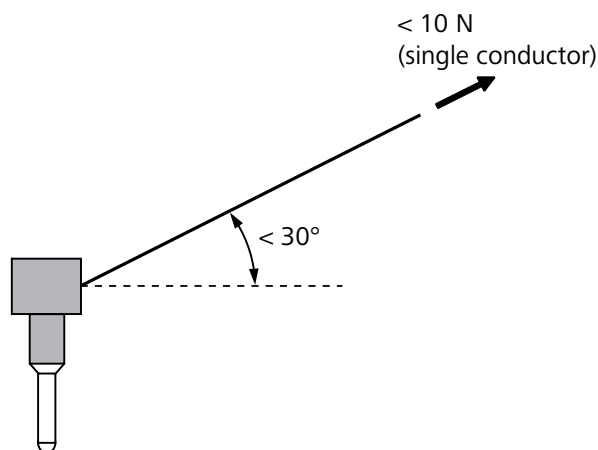

Fig. 904 Cable for exhaust gas temperature sensor
- Permissible bending angle of cable: max. 30° (see Fig. 904).
- Permissible loading max. 10 N per individual wire of cable (see Fig. 904).